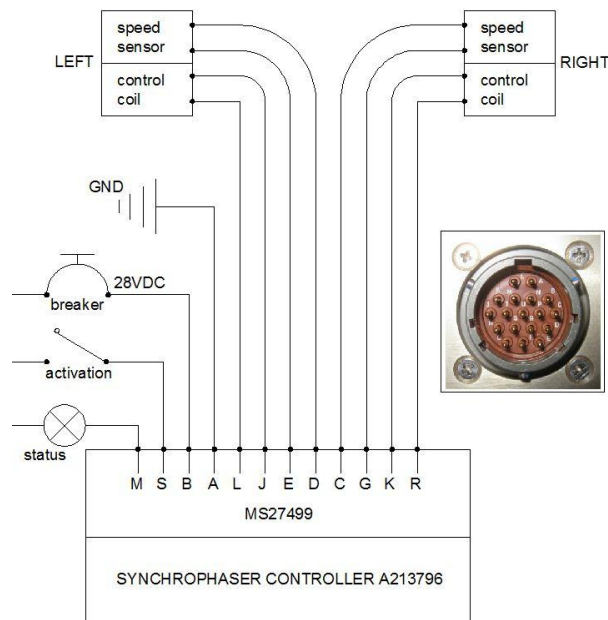

Fig. 6 – Synchrophasing Wiring Diagram for A213796
The wiring harness links the synchrophaser controller to the propeller governors. Figure 6 shows electrical interconnections between all synchrophasing components.
- 2) Test wiring by connecting an ohmmeter to the wiring harness plug connector pins according to the chart and plug illustration shown in Fig. 6 and Table 1.
- 3) If faults are discovered, use the information in the chart in Fig. 6 to correct the problem.